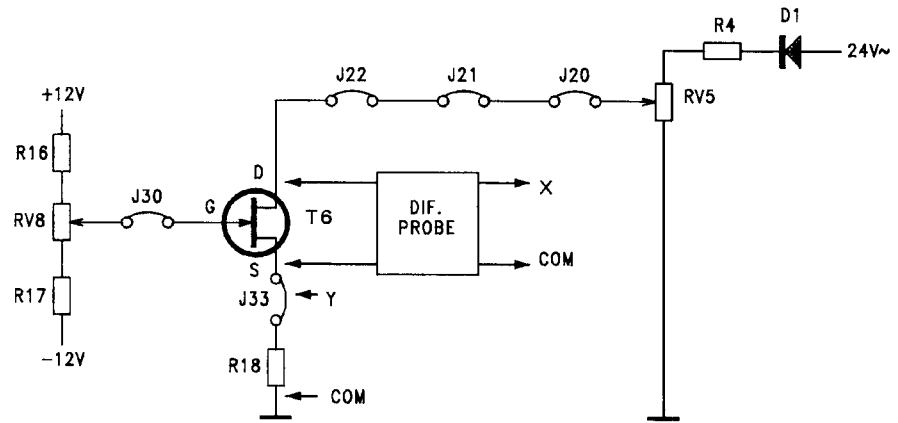

fig.B14.19
- Produce the circuit of fig.B14.19, by connecting jumpers J20, J21, J22, J33, J30